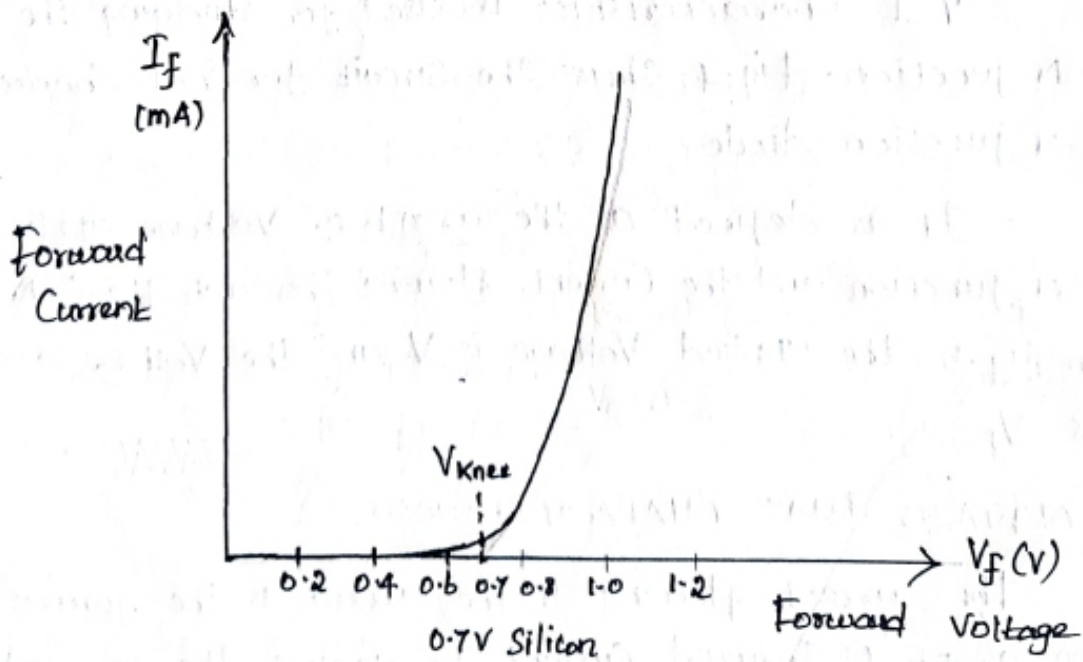

Fig. 5. Forward Biased PN diode characteristics.
- It is defined as the graph of Voltage applied across the P-N junction and the Current flowing through the P-N junction. In fig. 5, the applied Voltage is V and the Voltage across the diode is ' V_f '.
- When the applied voltage exceeds the threshold voltage V_{Th} the width of the depletion region is further reduced and the forward current rises exponentially as shown in fig. 5.